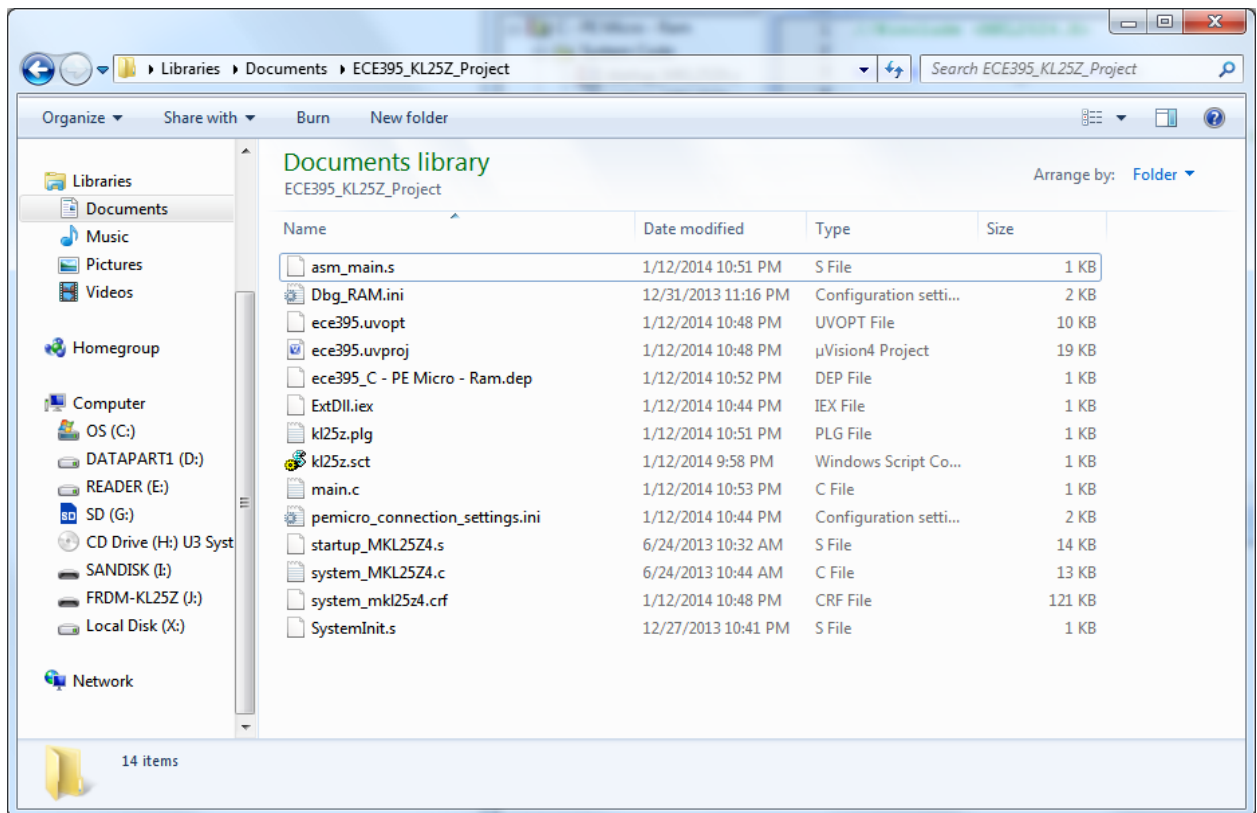

Figure 7 - Files in default project
Step 1: Download from the course website the latest version of ECE395_ML25Z_Project zip file that matches the version of the Keil tools you are using and extract it to your working directory (Figure 7).